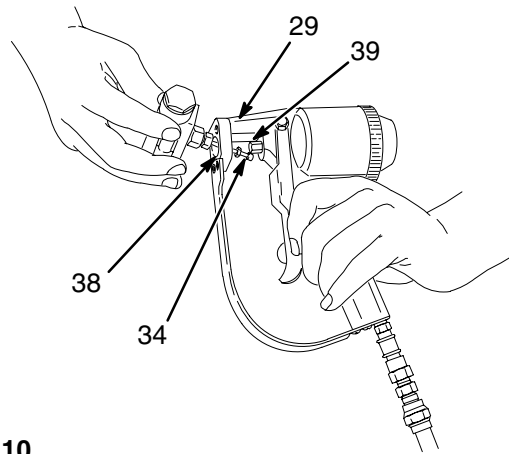

**Fig. 8** 04445
5. Slide the packing nut (32), nozzle retainer (30), and packing (33) onto the needle (34). Screw the packing nut (32) into the nozzle retainer (30) until the top thread of the packing nut is flush with the back of the retainer. See Fig. 8.